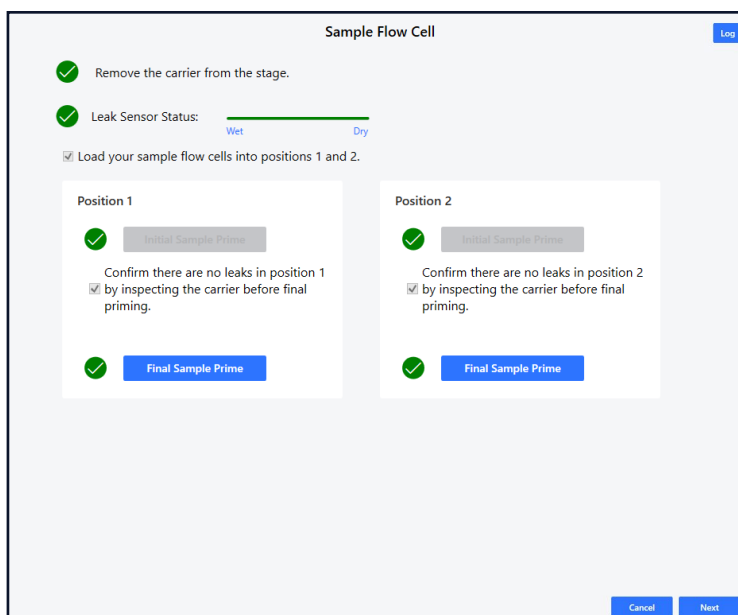

Figure 6.14. Dialog window, Sample Flow Cell complete.
7. The sample Flow Cell dialog box is complete. (See Figure 6.14.)